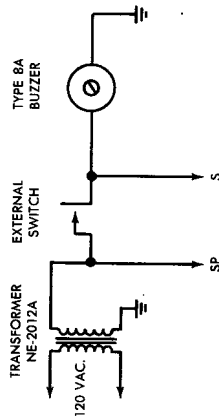

FIGURE 24. Typical Connections for Type 8A Buzzer
6.03 Typical connections for the type 8A buzzer are shown in Figure 24.